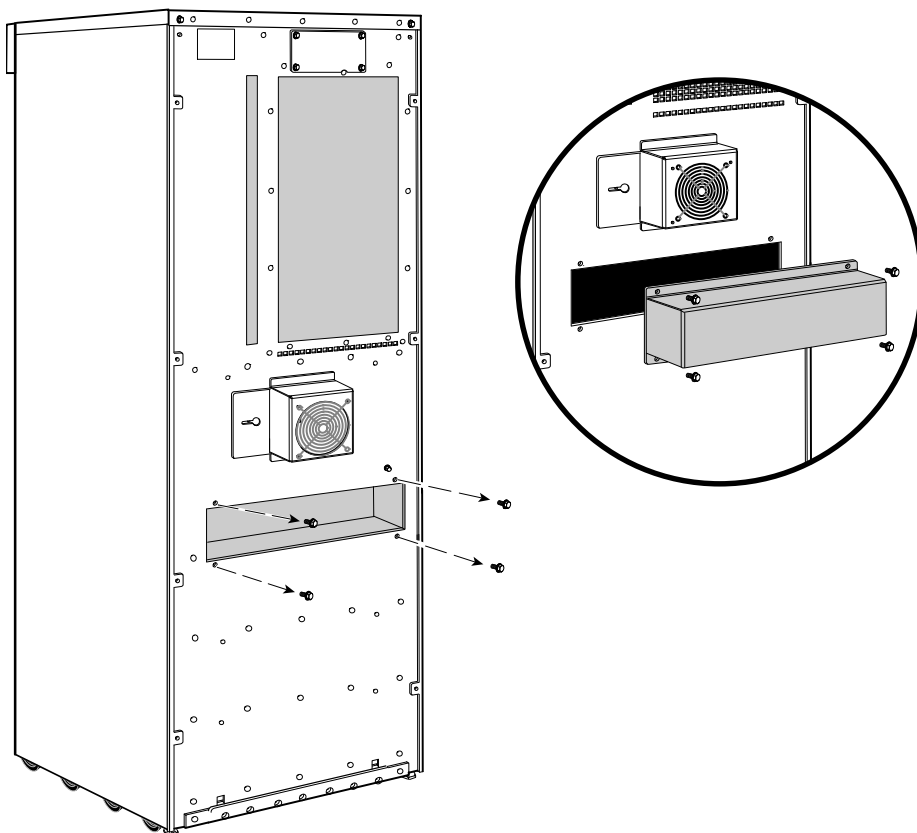

Figure 14. Reversing the UPS Conduit Landing Box
1. Remove the UPS conduit landing box from the rear panel and retain (see Figure 14).
7. Reinstall the UPS conduit landing box in the reversed position (see Figure 14).
- 13.** Reinstall the UPS conduit landing box in the reversed position (see Figure 14 on page 25).